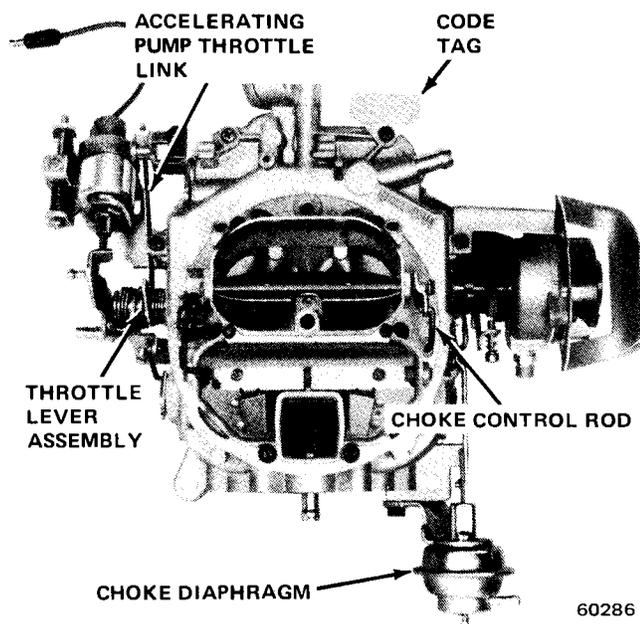

Fig. 4-70 Model 4350 Carburetor—Top View
(1) Remove fuel inlet line from fuel filter.
(2) Remove choke clean-air pickup connecting tube from air horn.
(3) Remove choke control rod retainer from automatic choke lever. Separate rod from lever.
(4) Remove accelerator pump throttle link retainer from throttle lever assembly. Separate link from lever assembly.
(5) Remove air cleaner anchor screw and remove air-horn-to-fuel-bowl attaching screws (fig. 4-70).